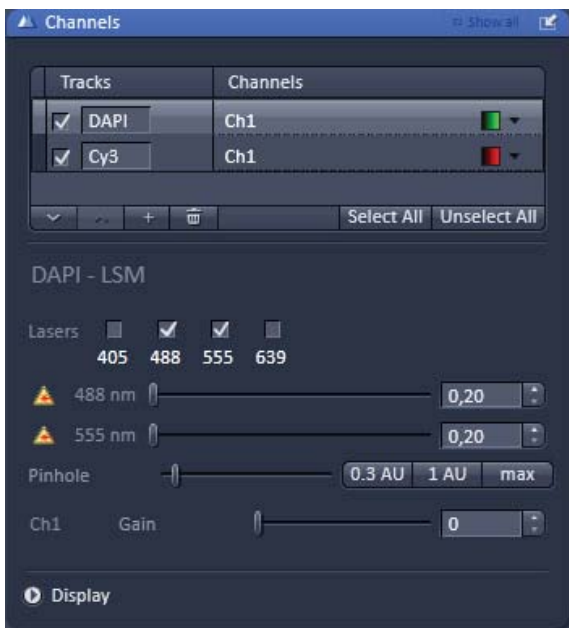

Fig. 25 Channels tool
- Set the **Pinhole** to **1 AU** (Airy Unit) (Fig. 25).
- When the image is saturated, Laser Power in the **Laser** control section of the **Channels** tool (Fig. 25) using the slider to reduce the intensity of the laser light to the specimen.
- Reduce the **Gain** (Fig. 25) until the red pixels only just disappear.